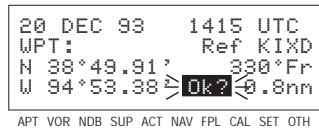

Figure 4-6
- The next page displayed will be the Initialization page (figure 4-6). Verify that the date displayed in the top left corner of the Initialization page is correct. The KLX 135 has an internal battery powered calendar/clock, so the date and time normally don't require setting. The battery has a life of approximately 3 years. In addition, the KLX 135's system date and time are automatically updated very precisely when at least one satellite is being received. However, if for some reason the date or time are incorrect, it is necessary to enter the correct date or time so that the KLX 135 can reach the navigation mode. The date must be correct and the time must be correct within ten minutes so that the KLX 135 will start looking for the correct satellites.